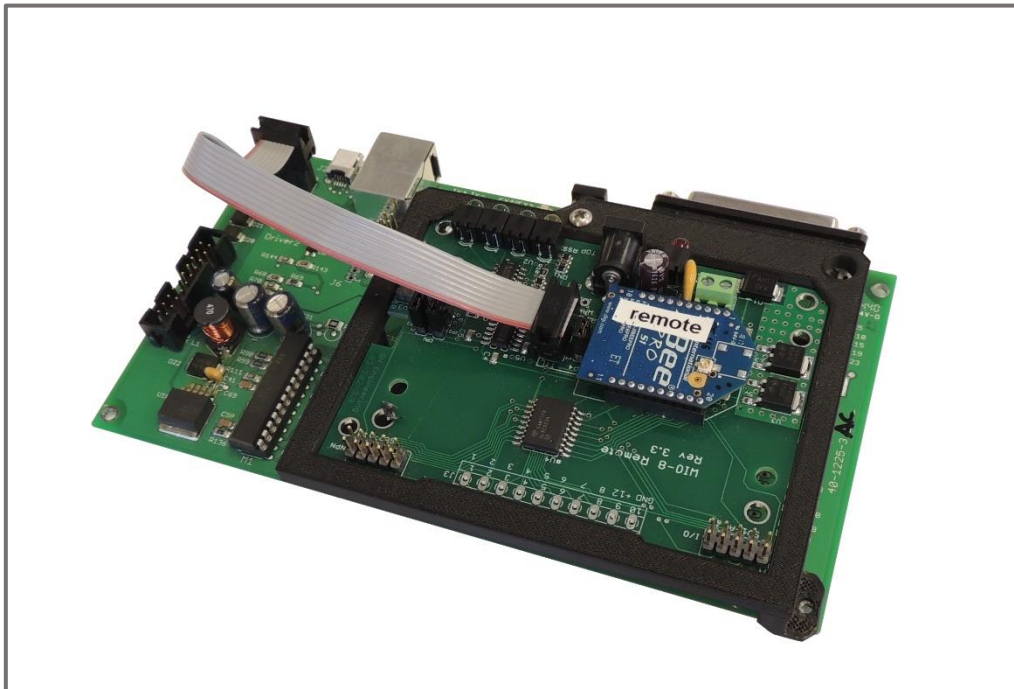

Fig. 17 Ribbon cable installed.
Step 5: Connect the ribbon cable as shown in Figure 17. The male connector pairs with the female socket (J7) on the driver board. The other end connects to the Wi-Fi board. Make sure the wire is oriented the correct direction!